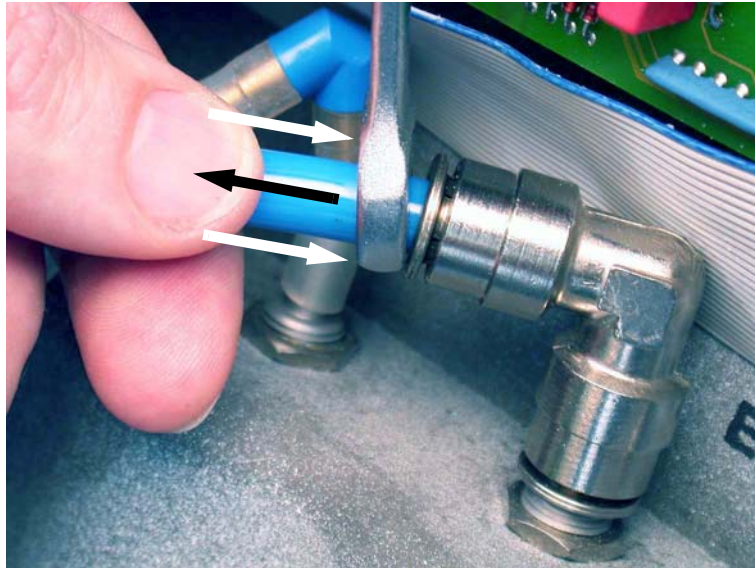

Figure 11-169. Removing the nebulizer hose from the front panel
6. Remove one hose from the connector on the front panel. To do this, use a wrench to push down on the inner collar of the connector, while pulling the tube free. Figure 11-169 shows the removal of the hose from the tank.